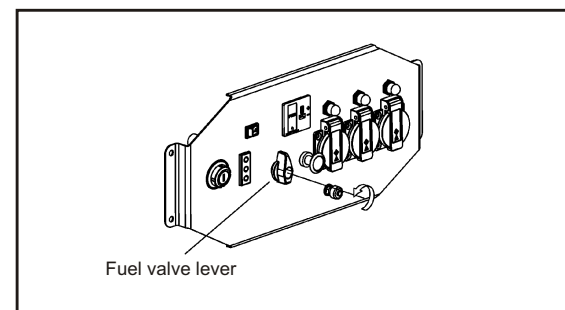

Fig.7 Fuel valve lever opening view
4.1 Turn the fuel valve lever to the ON position, see fig.7.